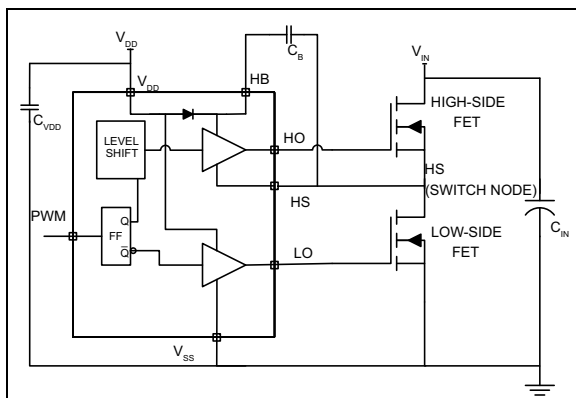

**FIGURE 6-6:** Turn-Off Current Paths.
Figure 6-6 shows the critical current paths when the driver outputs go low and turn off the external MOSFETs. Short, low impedance connections are important during turn-off for the same reasons given in the turn-on explanation. Current flowing through the internal diode replenishes charge in the bootstrap capacitor,  $C_{\text{B}}$ .
- Trace out the high  $d_i/d_t$  and  $d_v/d_t$  paths, as shown in Figure 6-5 and Figure 6-6 to minimize the etch length and loop area for these connections. Minimizing these parameters decreases the parasitic inductance and the radiated EMI generated by fast rise and fall times.